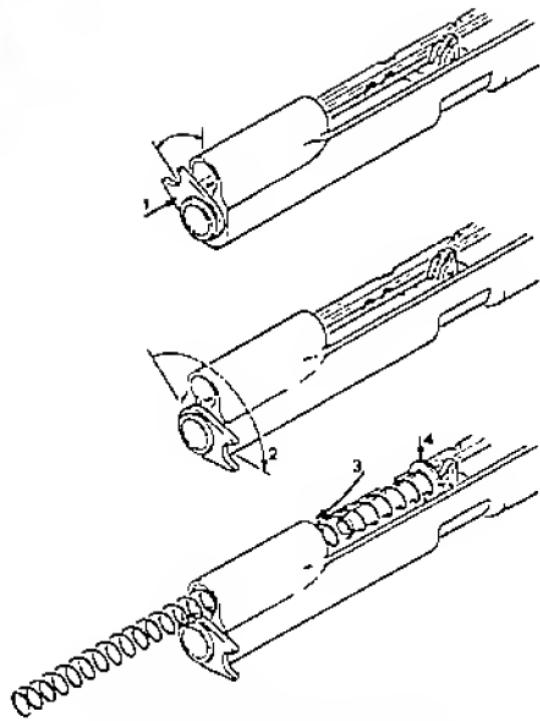

FIGURE 9-INSTALLING BARREL
2. (See Figure 9). Place barrel bushing over muzzle of barrel and into slide until it is flush with the face of the slide, (STEP 1). Turn bushing clockwise as far as it will go. (STEP 2).